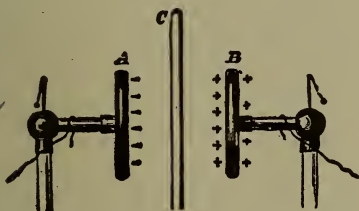

Fig. 18. A Condenser arranged so as to use different dielectrics at C, and with plates A & B movable.
*Answer.* Suppose as in Fig. 18 we have two metal disks A and B insulated by glass supports, with a sheet of glass or mica between them.